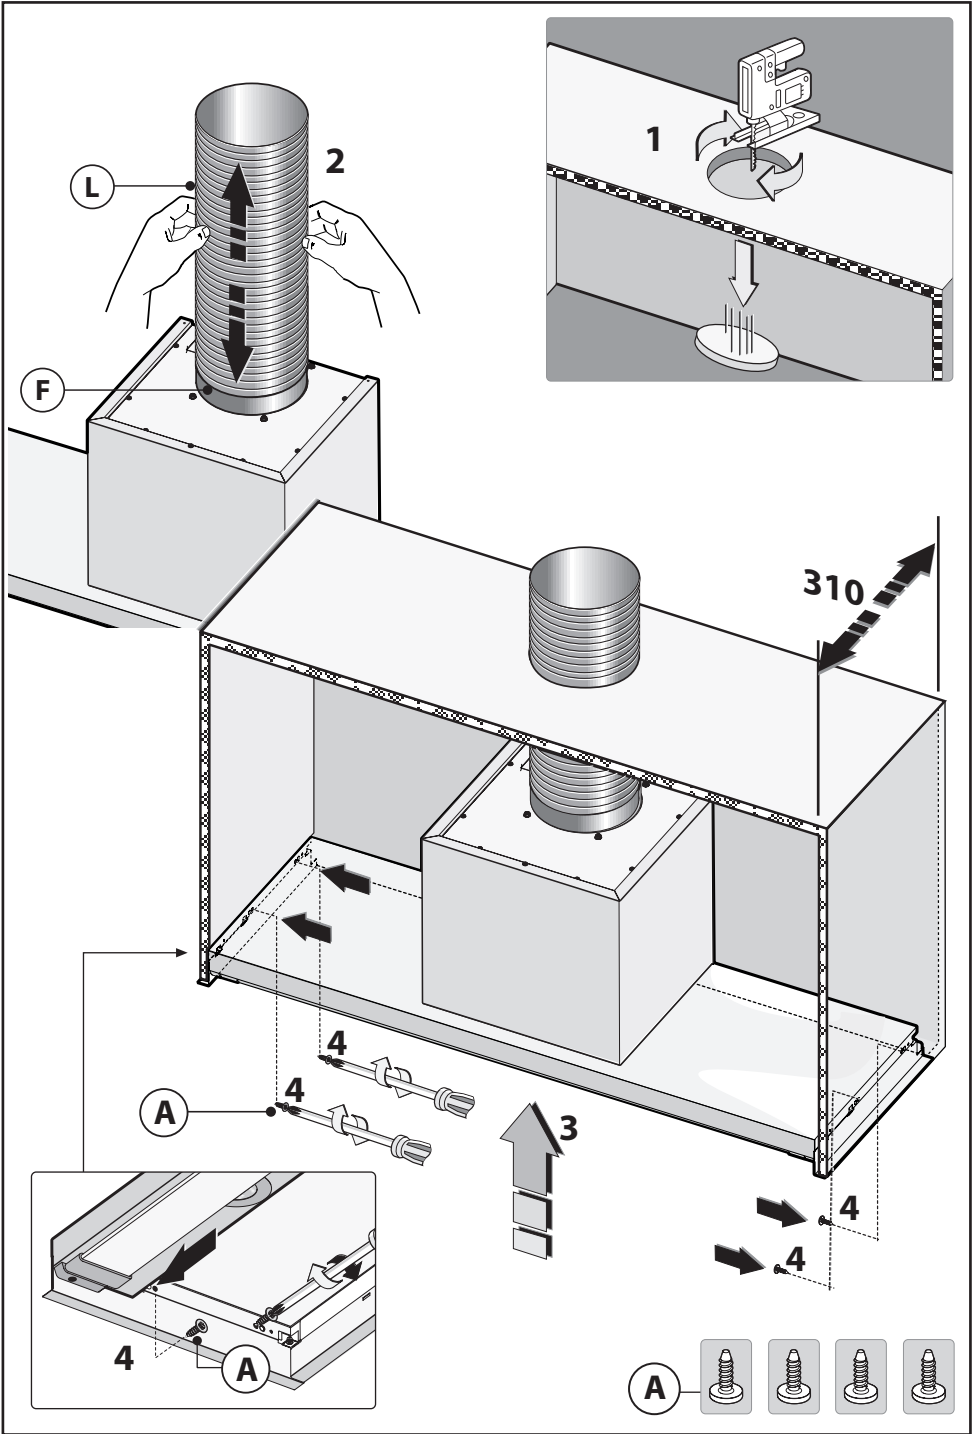

Fig.4
- In the case of assembly of the appliance in the suction version prepare the hole for evacuation of the air Fig. 4 – phase 1.
- Connect flange **F** to the air exhaust hole using flexible hose **L** Fig. 4 – phase 2.
- Align the hood to the unit and fasten it with the 4 screws **A** supplied Fig. 4 – step 3-4.